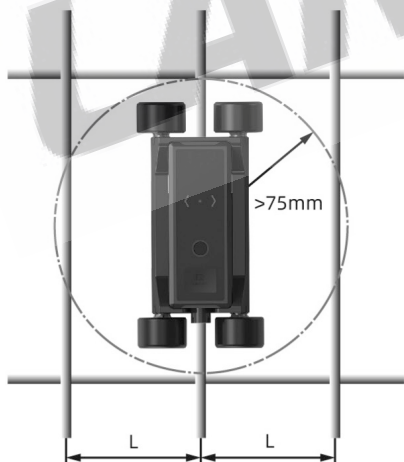

Fig.1.1
9. As shown in Figures 1.1 and 1.2, the ratio of rebar spacing L to cover depth S should generally be no less than 2:1. This ratio should increase as the rebar diameter increases: for rebars with diameters greater than 18 mm but not exceeding 25 mm, the ratio should be at least 2.5:1; for diameters exceeding 25 mm, the ratio should be at least 3:1.
10. As shown in Figure 1.1, surrounding stirrups should be located at least 75 mm away from the center of the probe measurement point.